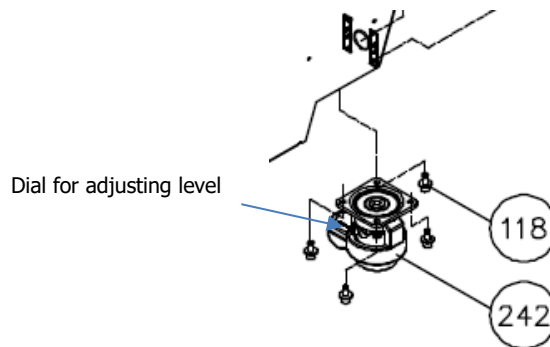

Figure 6: Typical Caster
1. The (typical) machine is supplied with four casters, installed, which can be used to level the machine. The casters have wheels and feet that allow the machine to move around freely and also be secured in place. Rotate the red dial clockwise to raise the feet and move the machine. Rotate the dial counterclockwise to lower the feet and secure the machine in place. Fig. 6.